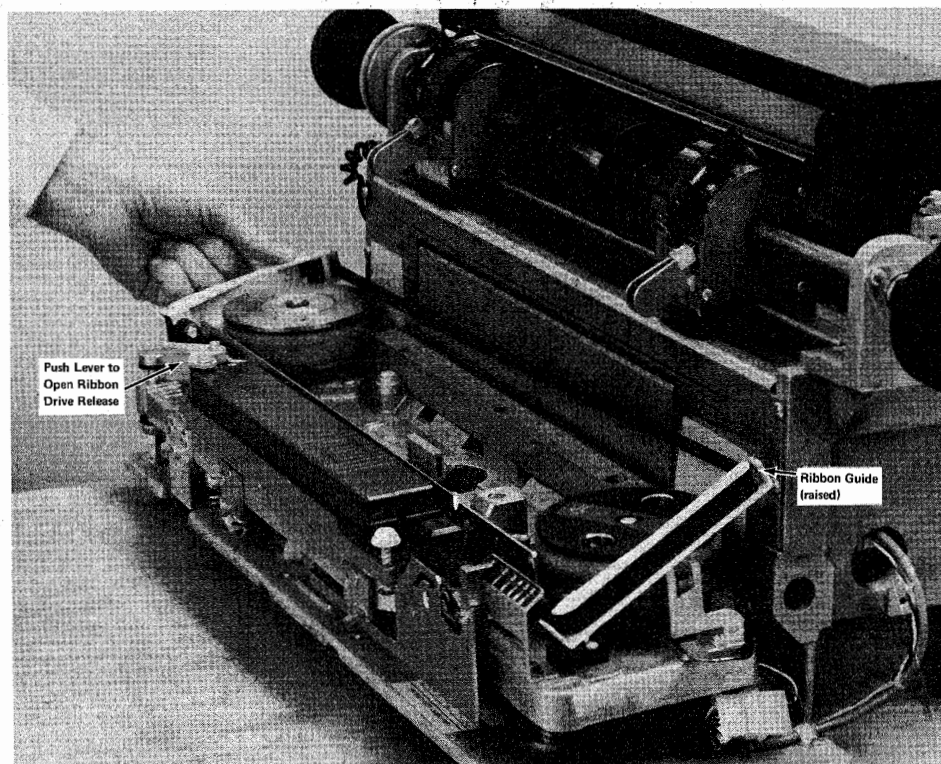

Figure 5-7. Raising Ribbon Guides
- 4 Raise both ribbon guides as shown in Figure 5-7.
- 5 Open the ribbon drive release lever as shown in Figure 5-7.
- 3 Open the ribbon drive release lever shown in Figure 5-7.
- 9 Lower the ribbon guides shown in Figure 5-7.
- 2 Raise both ribbon guides as shown in Figure 5-7.
- 6 Lower the ribbon guides as shown in Figure 5-7.